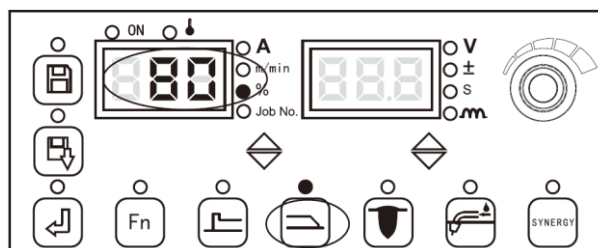

Figure 3-8 Setting screen for % of parameters for arc ending
1. Shortly press the **Parameters for arc ending** key, the indicator for parameters for arc ending and the indicator for “%” are on, then the parameters for arc ending can be viewed, as shown in Figure 3-8.